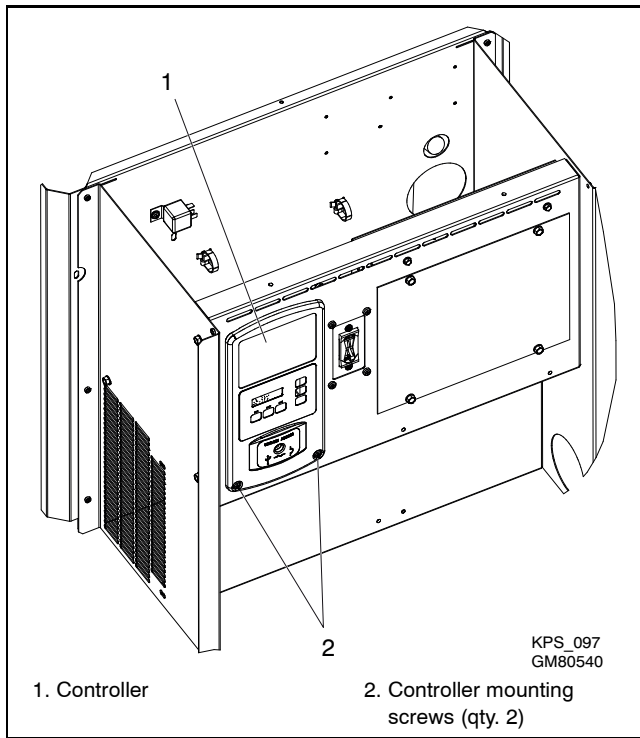

Figure 3-13 Controller Mounting
5. Remove the two screws securing the controller to the junction box and carefully lift the bottom edge of the controller. See Figure 3-13.